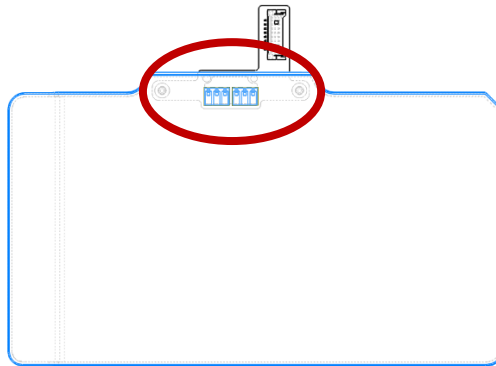

FIG. 3C: BATTERY MOUNTED ON BOARD
- Place the battery on the DOCK connection on the system with the smooth side up and the tab facing the center of the system. Please make sure that the contacts from the battery to the board are lined up properly (refer to **Fig. 3C** for visual reference).